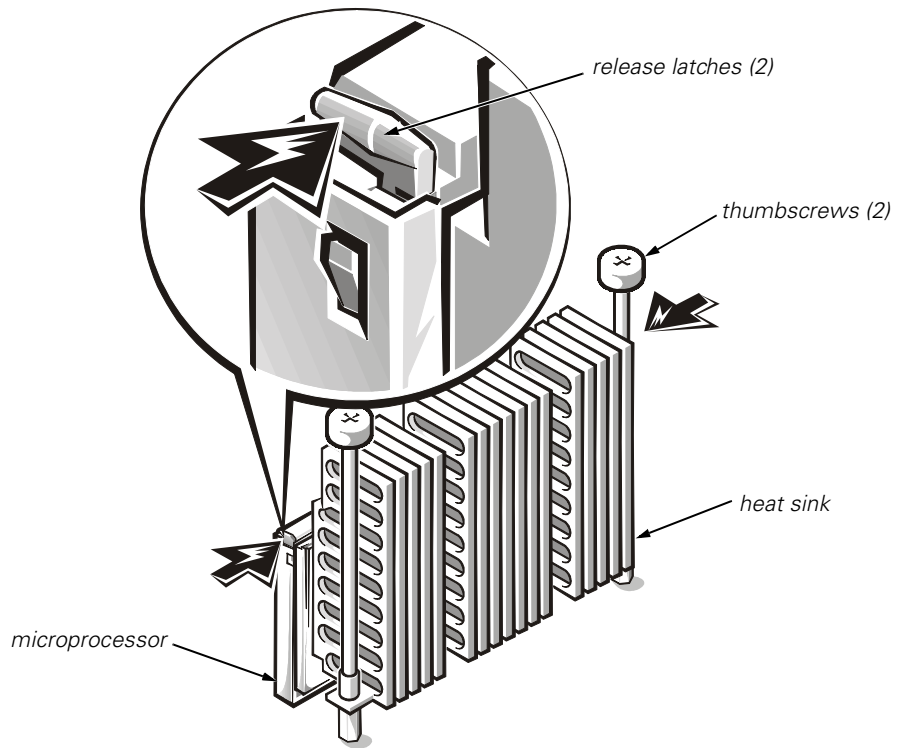

Figure 1-6. Removing the Microprocessor
2. Press the microprocessor’s release latches inward until they snap into position (see Figure 1-6).
NOTE: Figure 1-6 illustrates the SEC cartridge. The heat sink on the single-edge connector cartridge 2 (SECC2) package is different.